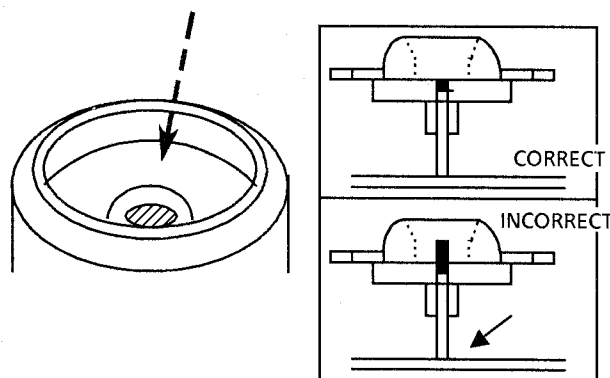

Fig 13
4. After inserting the turntable, bond the motor shaft and turntable together (at the section marked by an arrow in fig 13 on the left below).
5. Use "LOKTTITE" #460 bonding agent, and apply as little as possible. Take care not to allow any excess bonding agent to get onto the turntable. Be extremely careful not to allow bonding agent to adhere to the motor bearings (the section marked by an allow in fig 13 on the right).